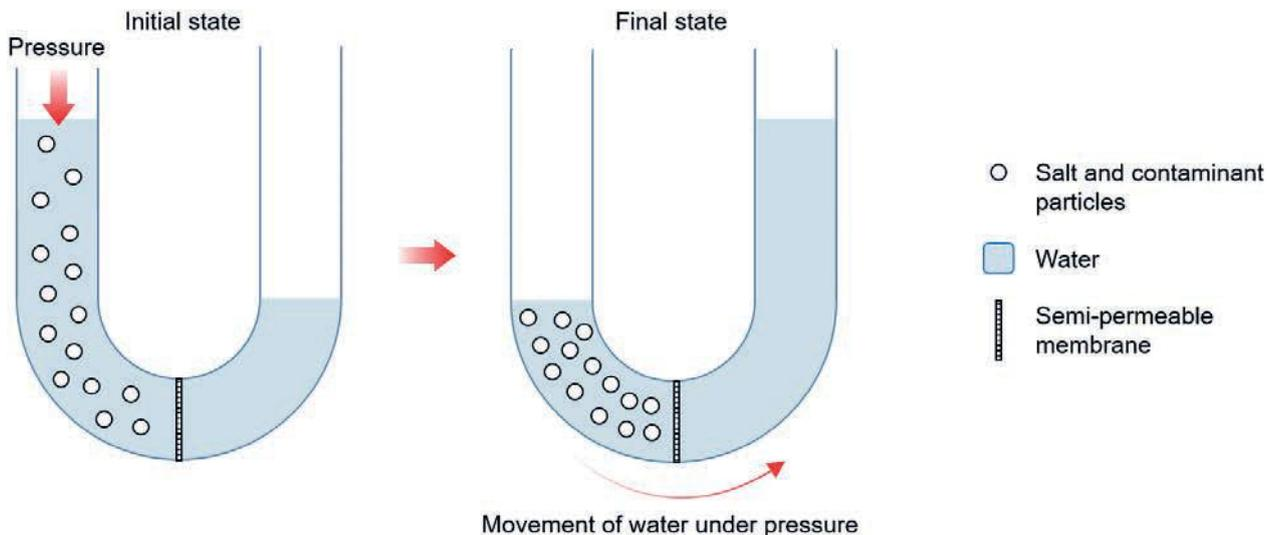

Figure 4.2.11: Reverse osmosis.
**Reverse osmosis (RO)** is a process which employs a semipermeable membrane to remove dissolved ions, molecules and suspended particles (depending upon size) from water. Pressure is applied to overcome the **osmotic pressure** (the pressure required to stop the natural osmotic flow), forcing the solute to remain on the pressured side of the membrane and water to shift to the other side of the membrane (Figure 4.2.11).